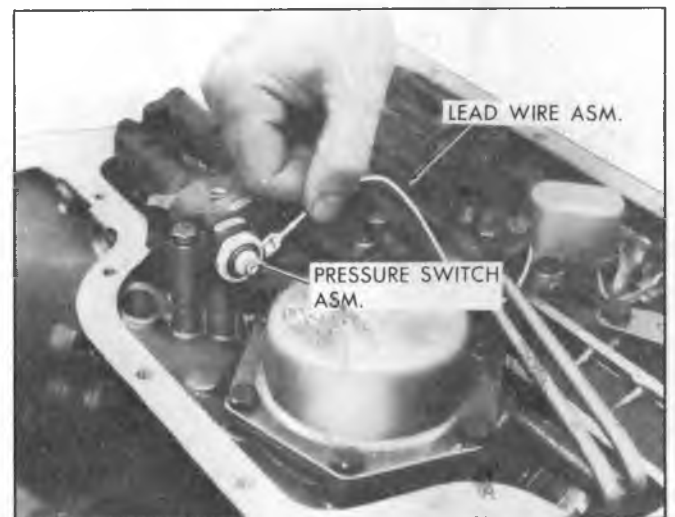

Fig. 8T-A--Disconnecting Pressure Switch Lead Wire Assembly
1. Disconnect the lead wire assembly from the pressure switch assembly (fig. 8T-A).
2. If necessary, remove the pressure switch assembly (fig. 8T- B).